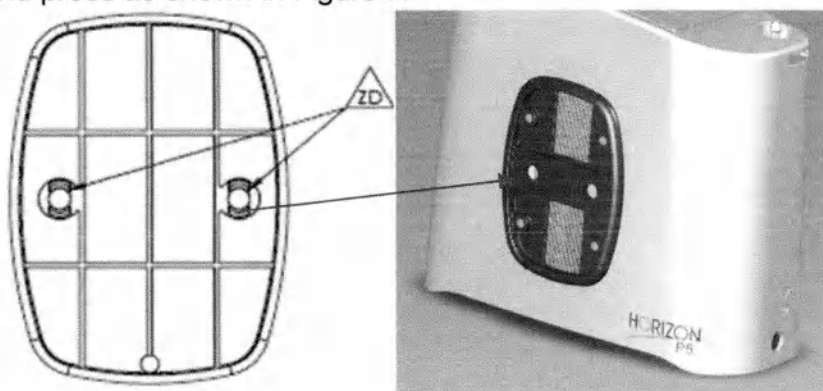

Figure 7: Filter output cover installation
1. Place correctly install the cover to the unit by inserting the two guide "ZD" to the unit and press as shown in Figure 7.